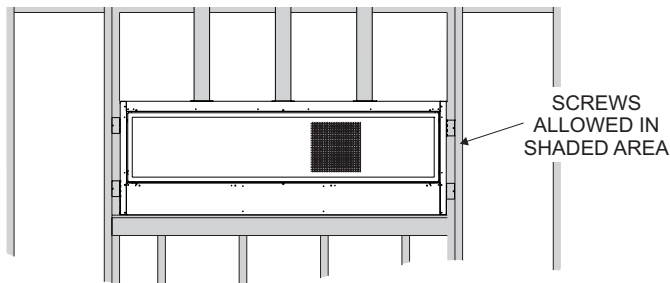

Figure 55
- Screws are allowed in framing and top mounting brackets. No screws are allowed into the fireplace face. **See Figure 55.**